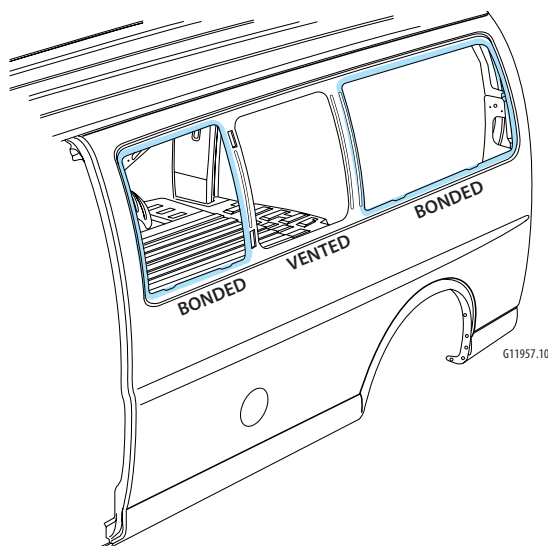

Figure 7-10:
7. Clean and prepare all surfaces. The glass bonding area should be a primer surface ONLY, and NOT an aftermarket top coated (paint, or color coated) surface. Materials such as BASF DE17, Dupont 2610, or PPG DP40, or equivalent, are appropriate for this application (figure 7-10).